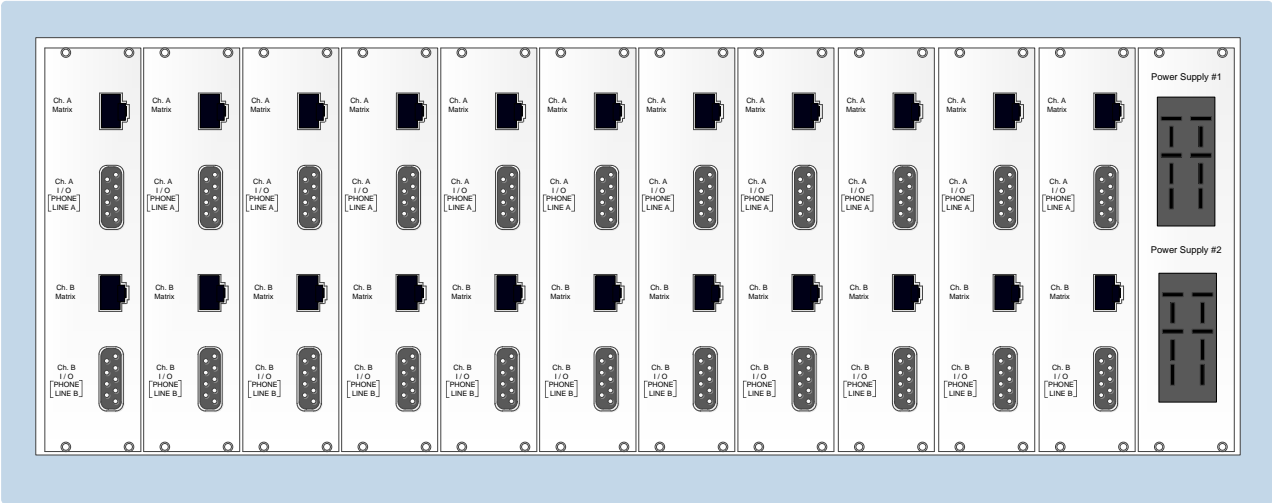

Figure 4: IMF-3 rear panel
- Two DB-9 connectors for connecting cable to non-four-wire devices (see **Figure 4: IMF-3 rear panel**).